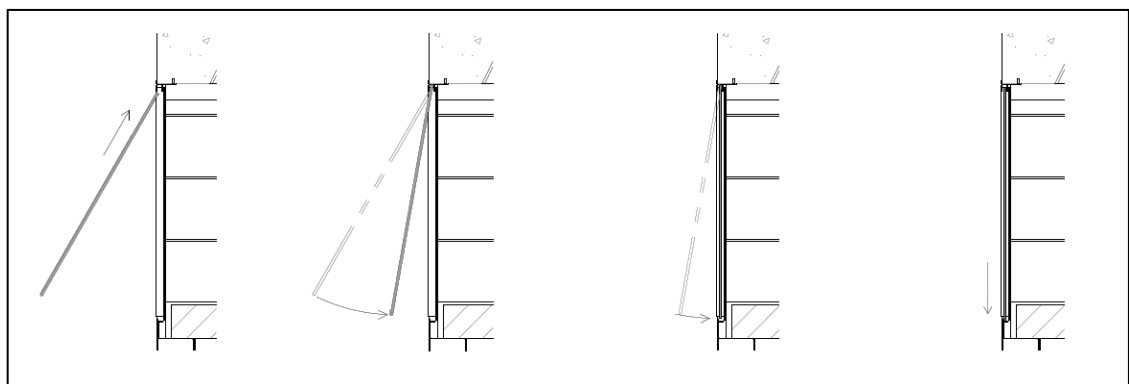

FIGURE 71
- 3) With the panel in an upright orientation, angle the top of the glass towards fireplace and insert the top edge of the glass panel into the channel of the Top Glass Bracket. In the same motion, raise the glass panel's top edge to fully seat in the Top Glass Bracket while swinging the bottom edge of the glass panel in towards the fireplace. The bottom edge of the glass should align to the rear ledge of the Air Collector Box's glass bracket, and the glass should be in a vertical orientation. Gently allow the glass panel to seat into the bottom Air Collector Box glass bracket (**Figure 71**).